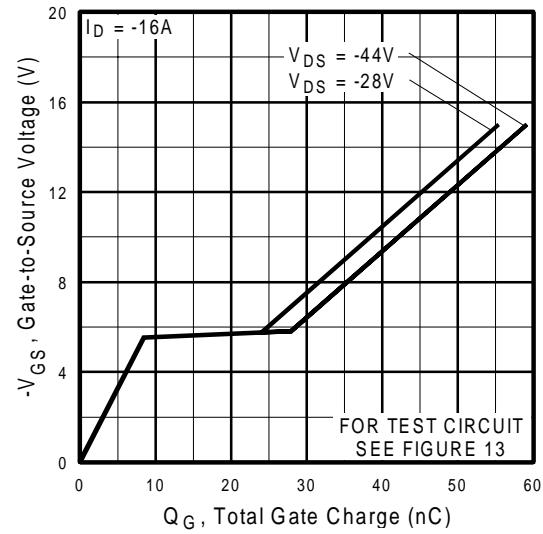

Fig 6. Typical Gate Charge Vs.
| Q_{gd} | Gate-to-Drain ("Miller") Charge | — | — | 29 | | $V_{\text{GS}} = -10\text{V}$, See Fig. 6 and 13 ④⑥ |